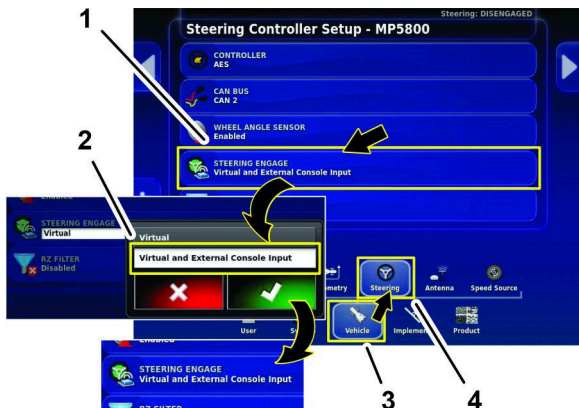

Figure 160
5. Press the VEHICLE icon, and press the STEERING icon (Figure 160).
6. Press the STEERING ENGAGE icon (Figure 160).
7. In the dialog box, press the VIRTUAL AND EXTERNAL CONSOLE INPUT icon, and press the confirm icon (Figure 160).